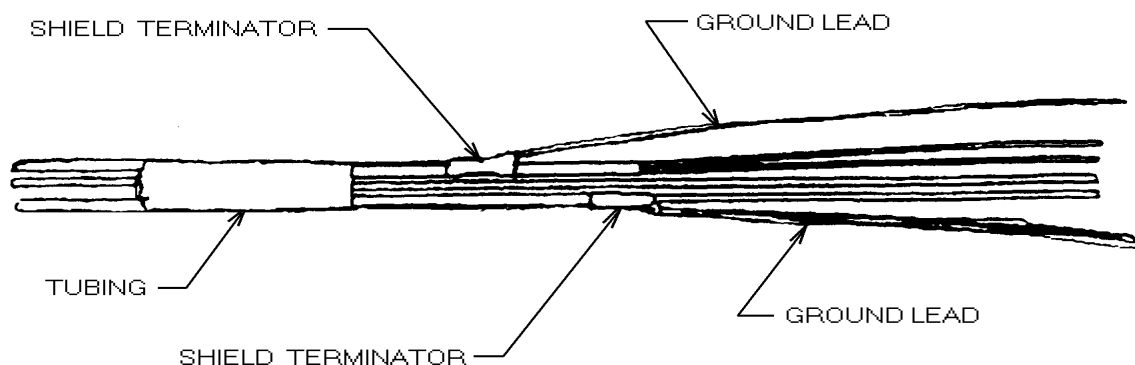

Figure 5-4. Shield Terminator Positioning.
4. Position the SolderSleeve shield terminators over the exposed shield braid as shown in Figure 5-4.